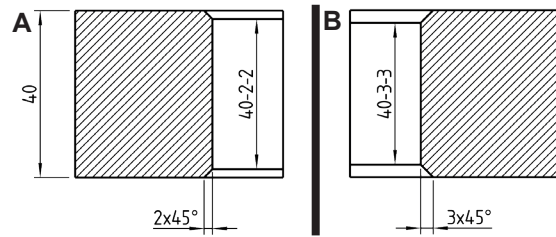

Fig. 1: Correlation of chamfer size and effective flange thickness
**Example of a 3x45° chamfer size on both sides of the drilled hole (Fig. 1 B):**
**Compared to the maximum recommended size of 2x45° (Fig. 1 A), 3x45° reduces the effective flange thickness by 1 mm on both sides.**